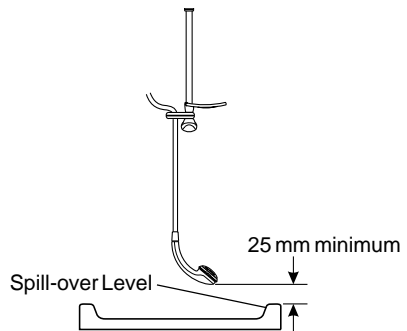

Figure 2
- 1.13. A hose retaining ring is supplied to prevent the handset from dropping below the spillover level of the bath or shower, which could lead to contamination from backsiphonage (refer to Figure 2). The supplied hose retaining ring should meet the great majority of user requirements for shower installations with flexible outlet fittings. However, there will be occasions when the hose retaining ring will not provide a suitable solution. In these instances an **outlet** double checkvalve, e.g. the Mira DCV-H, **must** be fitted. The inclusion of the Mira DCV-H will increase the required supply pressure typically by 0.1 bar.